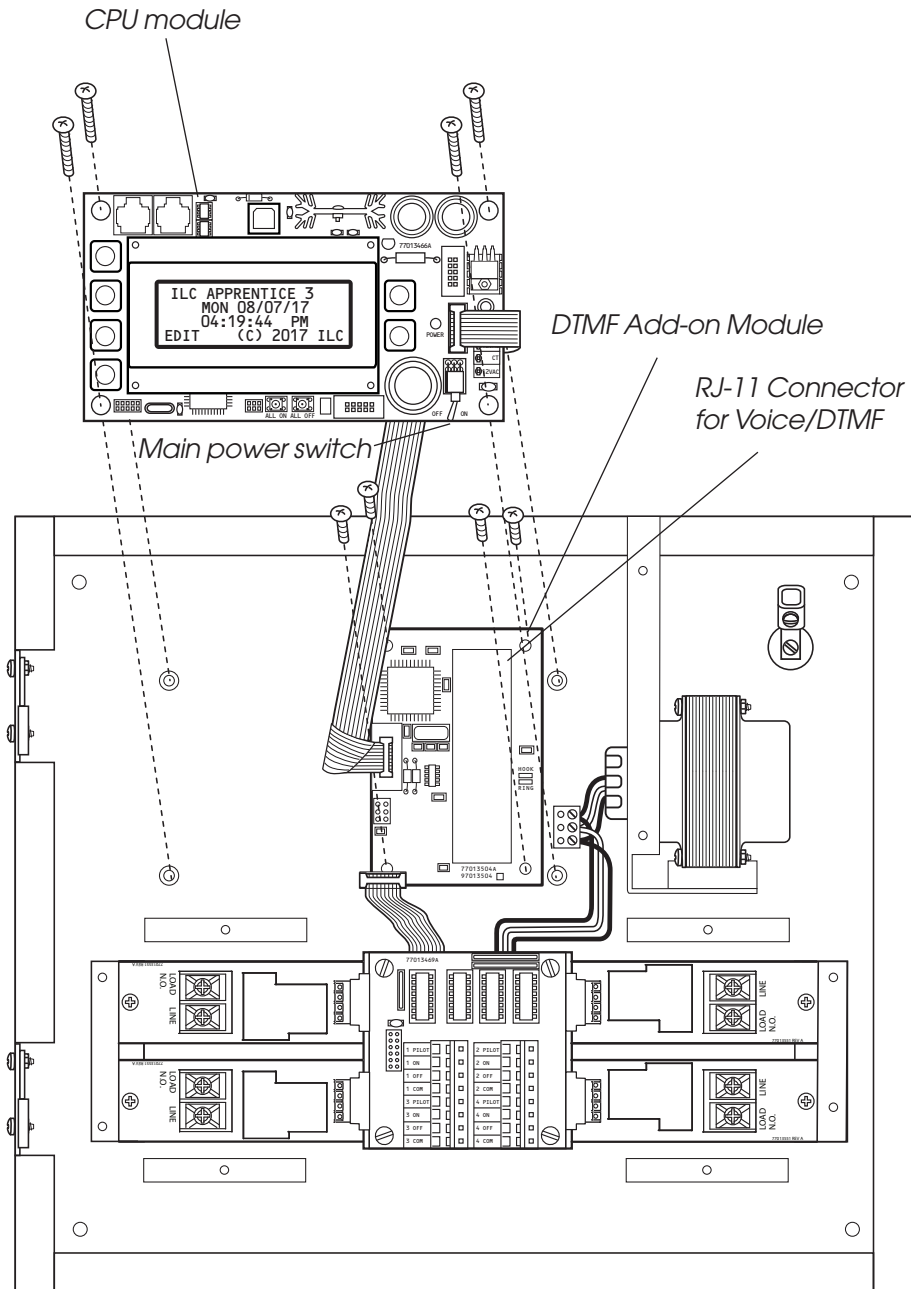

Figure A.2 – Voice/DTMF Module Installation
The telephone Add-On Module is an optional board that is easily added to the ILC Apprentice II controller. This module supports dual-tone multi-frequency (DTMF) touchtone telephone control and monitoring. The module plugs into the expansion port provided on the ILC Apprentice 3 controller CPU board. (See Figure A-2.)
1. The ILC Apprentice 3 must be equipped with a Voice/DTMF Add-On Module. Locate the card on the controller's processor board. (See Figure A.2.)